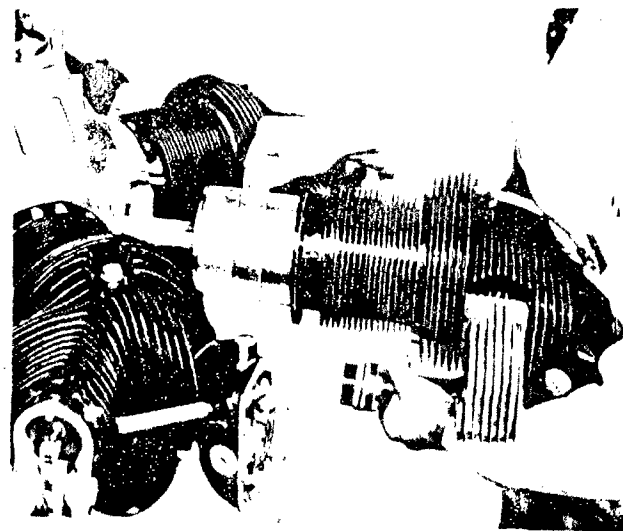

Figure 83 — Installing Cylinder
(1) Place engine in the horizontal position and rotate the crankshaft so that the master rod is in the top center position. Thoroughly lubricate piston pin and master rod bushing and install the piston with the number on the piston pin boss toward the propeller end of the engine. Place piston pin oil plugs in the piston pin. These plugs are hand pressed into position. Space the piston ring gaps an equal distance from each other and apply oil generously to the piston, piston rings and cylinder walls. Remove the master rod protector strap from the case. Install the rubber seal under the cylinder flange around the skirt.
b. Install Cylinder (See figure 83)
(1) With a suitable ring compressor, compress the piston rings and install the No. 1 cylinder, guiding the intake pipe into its port as the cylinder is installed. Turn the intake pipe gland nut well into its threads. Do not attempt to force the gland nut into place. Move the top